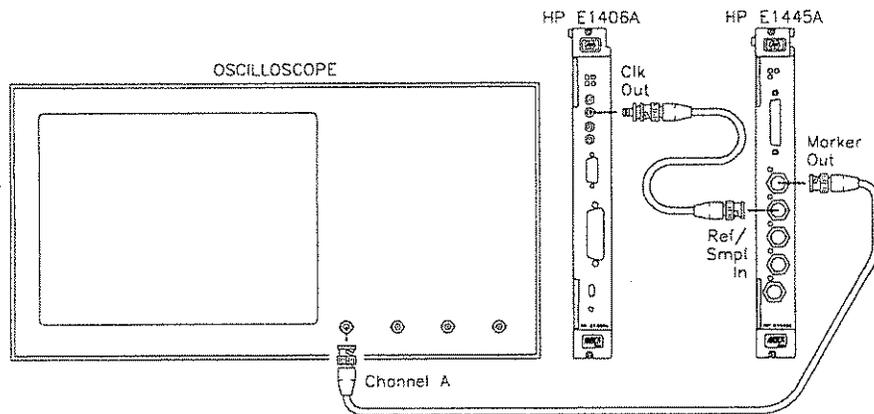

Figure 2-1. Ref/Sample In Test Setup
2. Set up equipment as shown in Figure 2-1: